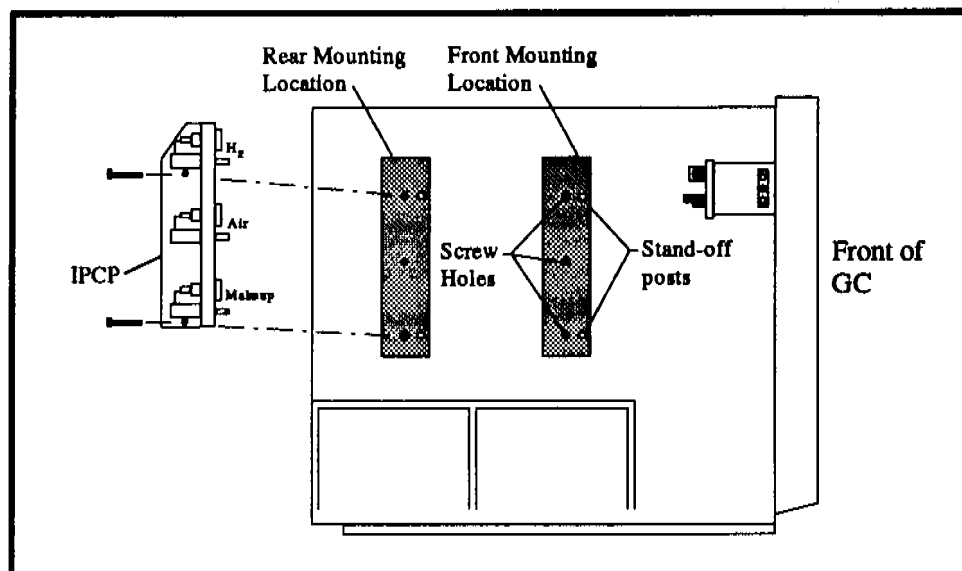

Fig. 3.2 IPCP Installation
- Locate the two sets of stand-off posts on the left side of the GC, as shown in Fig. 3.2. The front location is used if only one IPCP is installed. Both the front and rear locations are used if two IPCPs are installed.